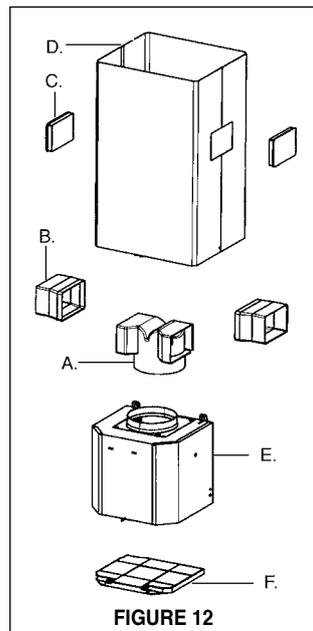
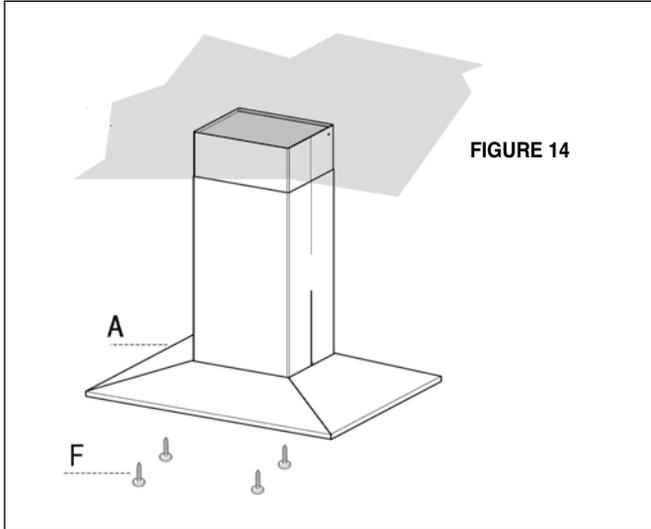
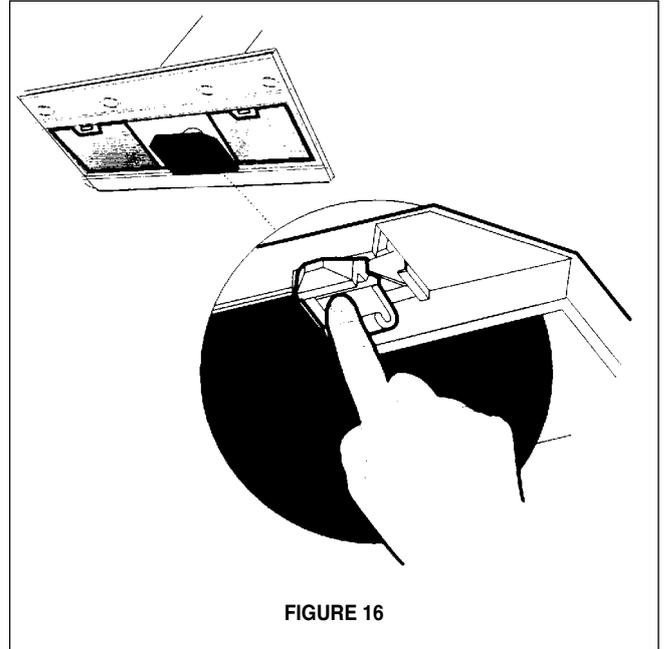

FIGURE 12
FIGURE 14
FIGURE 16
For ductless installations, line up the DUCTLESS DIVERTER EXTENSIONS HORIZONTAL (**B in FIGURE 12**) with the holes in the LOWER CHIMNEY COVER (**D in FIGURE 12**) and snap in the VENT GRIDS (**C in FIGURE 12**).
Ductless installations require a **Ductless Conversion Kit** whose components are pictured in **FIGURE 12**. Do not use the DAMPER (**M in FIGURE 1**) for ductless installations. The LOWER CHIMNEY COVER (**B in FIGURE 1**) should be discarded and replaced by the new one with holes from the **Ductless Conversion Kit (D in FIGURE 12)**.
As indicated in **FIGURE 12**, place the DUCTLESS DIVERTER (**A**) over the exhaust opening of the EASY CUBE (**E**). Fit the DUCTLESS DIVERTER EXTENSIONS HORIZONTAL (**B**) into the DIVERTER (**A**).
4. From below, attach the CANOPY SECTION (A in FIGURE 12) to the assembled chimney support using the four bolts provided (F in FIGURE 14).
For ductless installations, install the CHARCOAL FILTER (F in FIGURE 12) behind the center grease filter opening by inserting and locking into place. See FIGURE 16